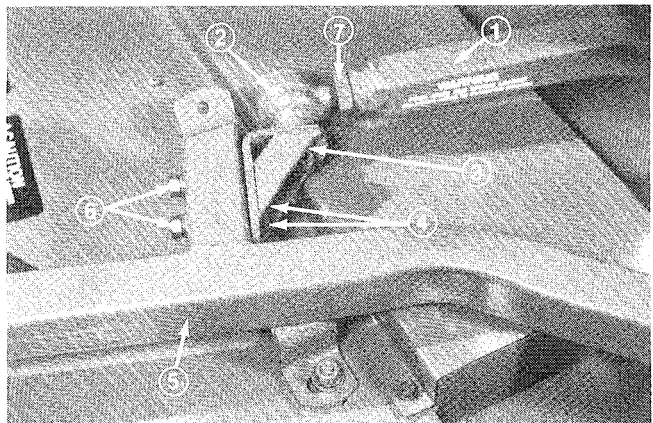

Figure 10
3. Secure ball joint mount (Fig. 10) to mount bracket with two capscrews (7/16 — 14 x 3"), flatwater (15/32 I.D. x 59/64 in. O.D.) and nuts (7/16 — 14). Head of capscrews and flatwasher must contact ball joint mount.
4. Tighten large jam nut against front of left push arm (Fig. 10). When tightening jam nut, hold ball joint straight to permit proper oscillation during raising and lowering of cutting unit.